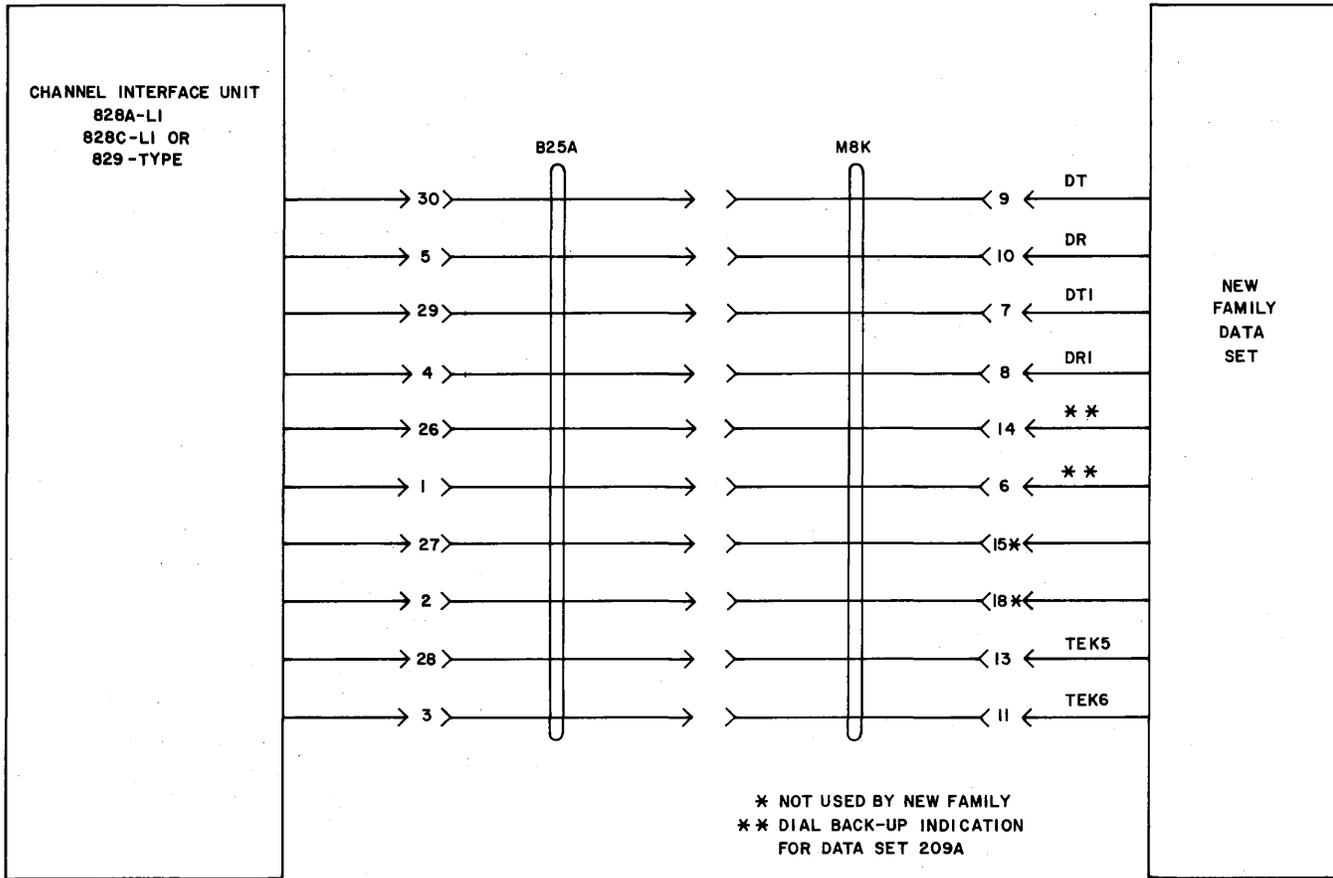

Fig. 6—Single Data Set Connections—Private Line
**4.06** The new family consists of DSs 201C, 202S, 202T, 208A, 208B, and 209A. With one exception for PL (see 4.07) and DDD (see 4.08), the line interfaces of the new family are the same. The standard channel interface for PL DSs is a 6-lead interface (Fig. 6).
**4.07** The exception to the standard PL interface is the addition of a pair of leads to indicate whether the connected channel is the PL channel or a backup channel. The leads are used in the new DAS 829 family of channel interface units (CIUs). When the connected channel is the backup channel, the normally open contact closes. This indication is expected to be required only for CIUs used with DS 209A (see Fig. 6). A wiring modification to the DAS 828C can provide this indication when required.
*Only six (eight with DS 209A) leads of the 25-conductor telephone interface cord are actually used (Fig. 6).*